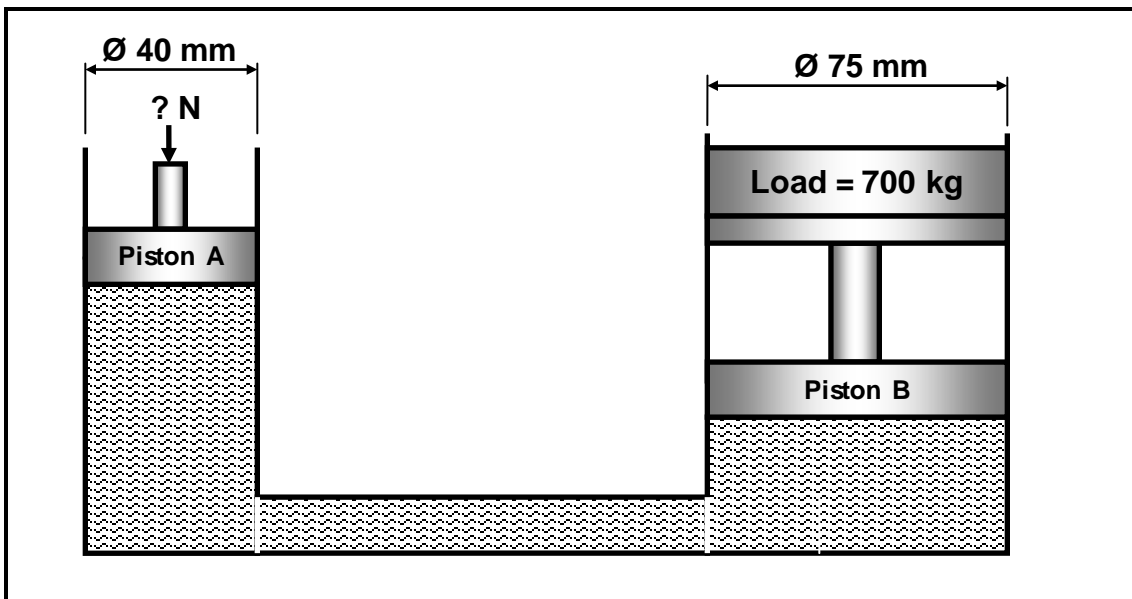

FIGURE 9.3
9.3 A hydraulic system is represented diagrammatically in FIGURE 9.3.